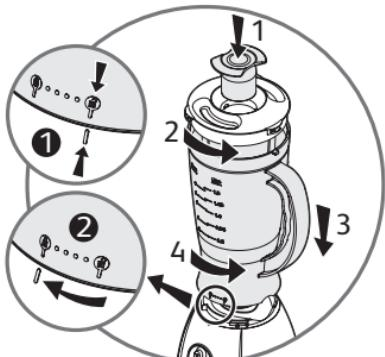
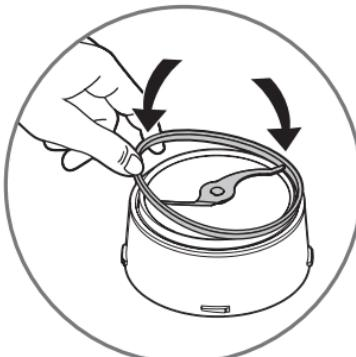
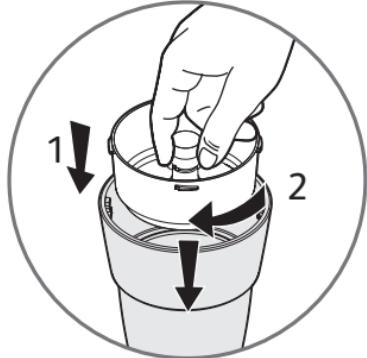

fig.3
fig.4
fig.5
- Fit the lid (B) to the mixer jug (C) and lock it by positioning it on the holes opposite the spout (figure 3).
Introduce the measuring cup (A) into the lid and press into place (figure 3). You are advised to hold the lid during operation.
- Place the mixer jug (C) on the body of the motor unit (D). The lock (open)  is aligned in the slot on the motor unit (figure 3).
- Then rotate the mixer jug (C) through a turn the lock (closed)  appears (figure 3).
- Dice all the ingredients before putting them into the mixer jug (C). It is best to start with liquids, without going over the maximum level shown on the jug (1.5L).
- Connect the appliance and start up by turning speed selector (E) to "Pulse," "1," or "2".
- To stop the appliance, bring the speed selector (E) to "0".
- Wait for the appliance back to a complete stop before removing the mixer jug (C).
- Remove the mixer jug (C) by unlocking it in opposite direction to installation.
- This universal mill (F) is equipped with a bowl (f3) that prevents access to the blades during use.
- Rotate the bowl (F) and pour the ingredients.
- Position the sealing gasket (f1) in its recess on the mill blade unit (f2) (figure 4). Position the mill blade unit (f2) on the bowl (f3), and lock the universal mill by rotating the blade unit (f2) through a turn in the clockwise direction (figure 5).